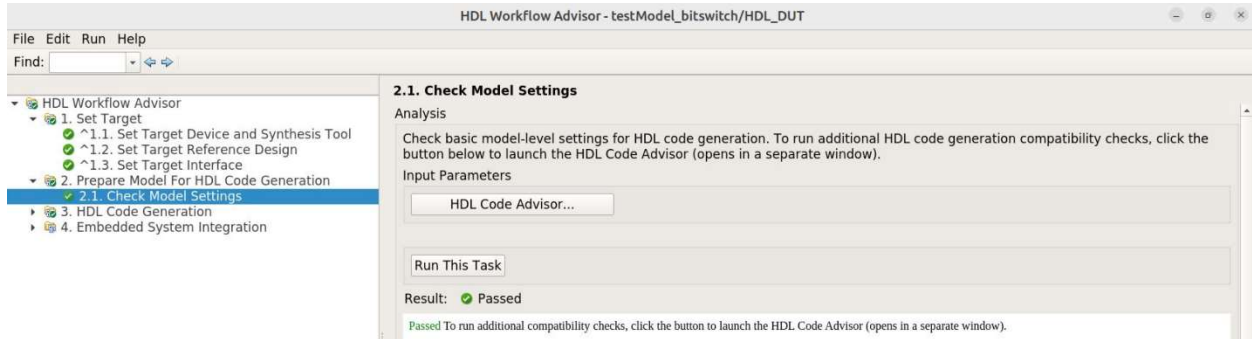

Figure 12. Check Model Settings
1.4 Run the task, as shown in Figure 12.